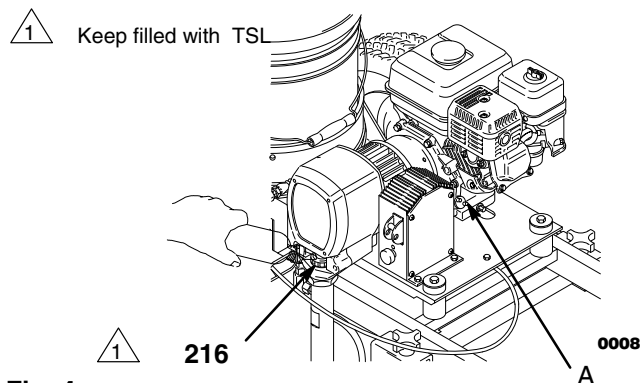

Fig. 4
4. Fill the packing nut/wet-cup (216) 1/3 full with Graco Throat Seal Liquid (TSL), supplied, and keep it filled, to help extend the pump life. See Fig. 4.
5. Check the engine oil level. Refer to the Honda engine manual, supplied. This is a summary of the information: Remove one of the oil fill plugs (A); the oil should be almost overflowing. See Fig. 4. Add oil as necessary. Also read the **Maintenance** section on page 23.